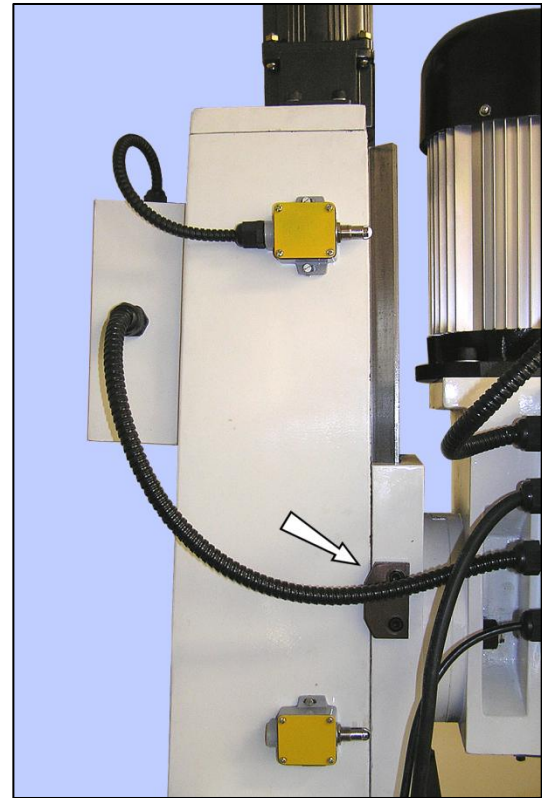

Figure 5-7 **Z-axis (elevation) limit switches**
9. **Crank handle removed? Headstock locking screws loosened?** Press and hold the **Up** button to run the headstock up the column. Check that the motor stops as the upper limit switch is actuated, Figure 5-7.